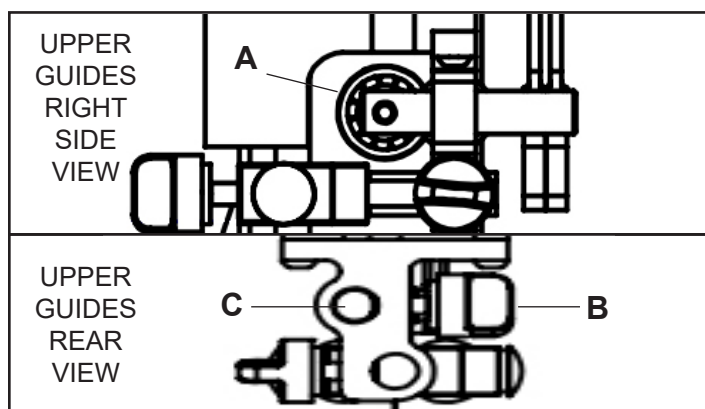

FIGURE 19
4. Adjust the rear bearing guide (FIG. 19, A) to be just clear of the back of the saw blade. Release the guide's Clamp Handle (#123, FIG. 19, B) and move the rear guide towards the blade by pushing the end of the Rear Guide Shaft (#127, FIG. 19, C). Tighten the handle when done.